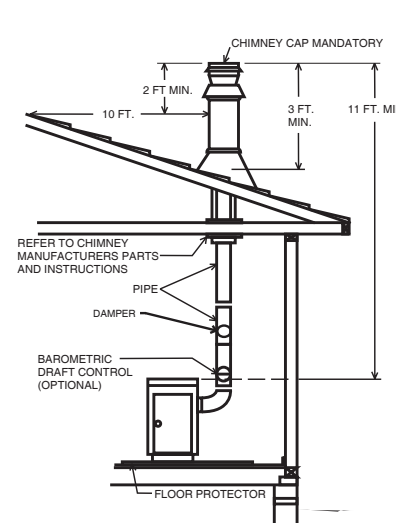

FIG. 5
1. The chimney connection should be as airtight as possible. The heater must have its own chimney flue. Do not connect this unit to a chimney flue serving another appliance. If there is no chimney near where you wish to place the heater, you can use a UL 103HT Residential Type and Building Heating Appliance Chimney (Fig. 5, 6, 6A & 6B).